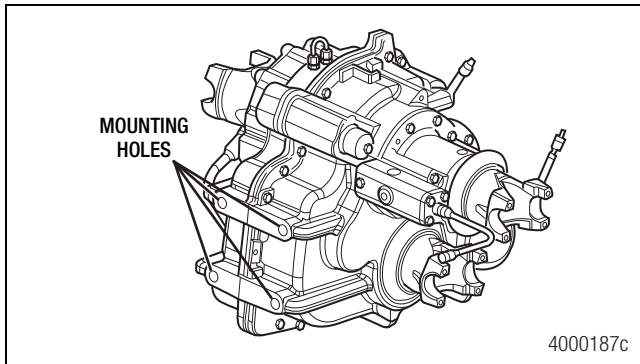
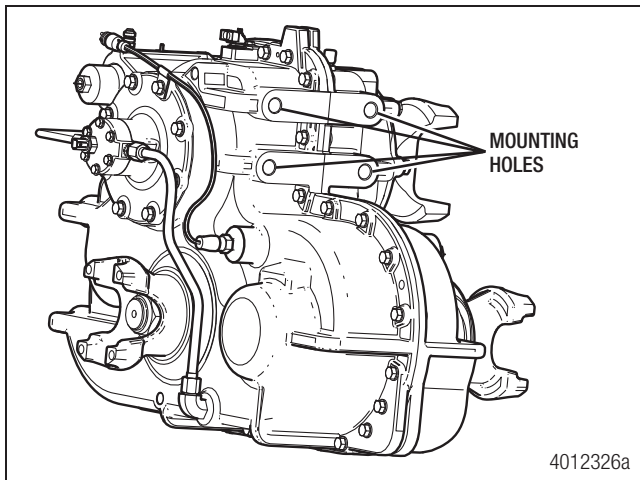

Figure 4.7
Figure 4.8
14. Construct suitable mounting brackets or similar fixtures. Attach the brackets to the front half of the transfer case by installing bolts through the mounting holes in the transfer case. Figure 4.7 and Figure 4.8.
16. Attach a suitable lifting device to the eyebolts to lift the transfer case. Use suitable brackets to mount the case in the repair stand. Figure 4.7 and Figure 4.8.